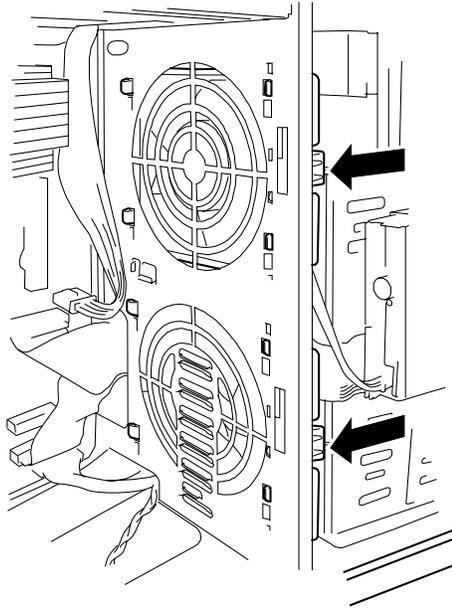

Figure 4-35. Securing the Fan Unit
4. Insert the tabs into holes on the frame of the server, and push the cooling fan unit toward the frame. See Figure 4-35.